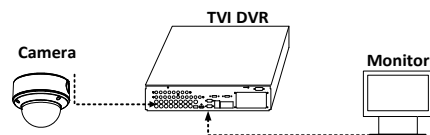

Figure 3-1 Connection
1. Connect the camera with the TVI DVR, and the monitor, as shown in figure 3-1.